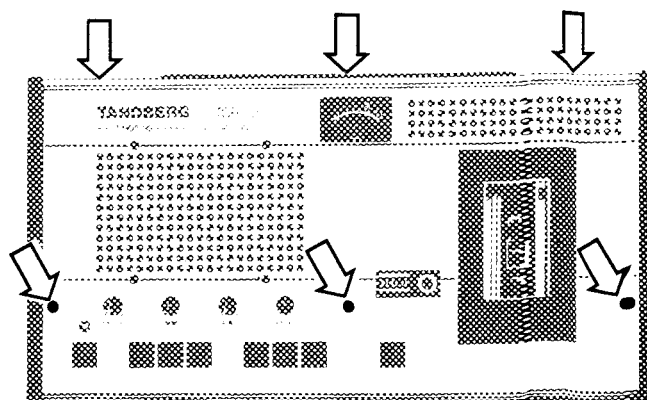

Fig. 2.2 Removal of top panel
3. Remove 3 screws on the top panel, and 3 screws at the top of the rear panel according to fig. 2.2.